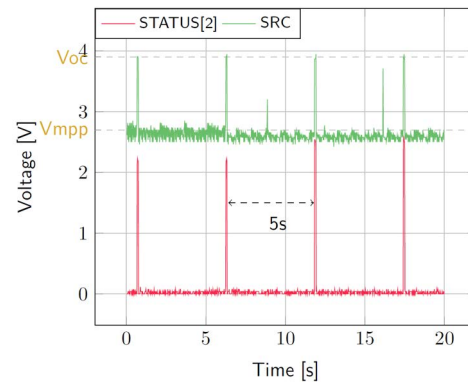

Figure 4: **SRC** and **STATUS[2]** while energy is extracted from **SRC** (**BATT** under  $V_{OVCH}$ )
- **SRC**: Regulated at  $V_{MPP}$ , which is a voltage equal to the open-circuit voltage ( $V_{OC}$ ) times the MPP ratio defined in Table 4.  $V_{SRC}$  equals  $V_{OC}$  during MPP evaluation (see Figure 4). Note that  $V_{src}$  must be higher than 380 mV to coldstart.
- **STATUS[2]**: Asserted each time the AEM10941 performs a MPP evaluation (See Figure 4).